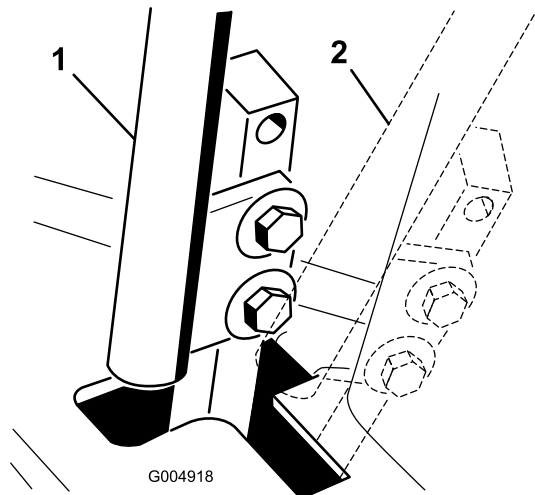

Figure 41
4. Move the control lever to the NEUTRAL position but **not locked** (Figure 41).
6. Check where the control lever is relative to notch in the console (Figure 41).